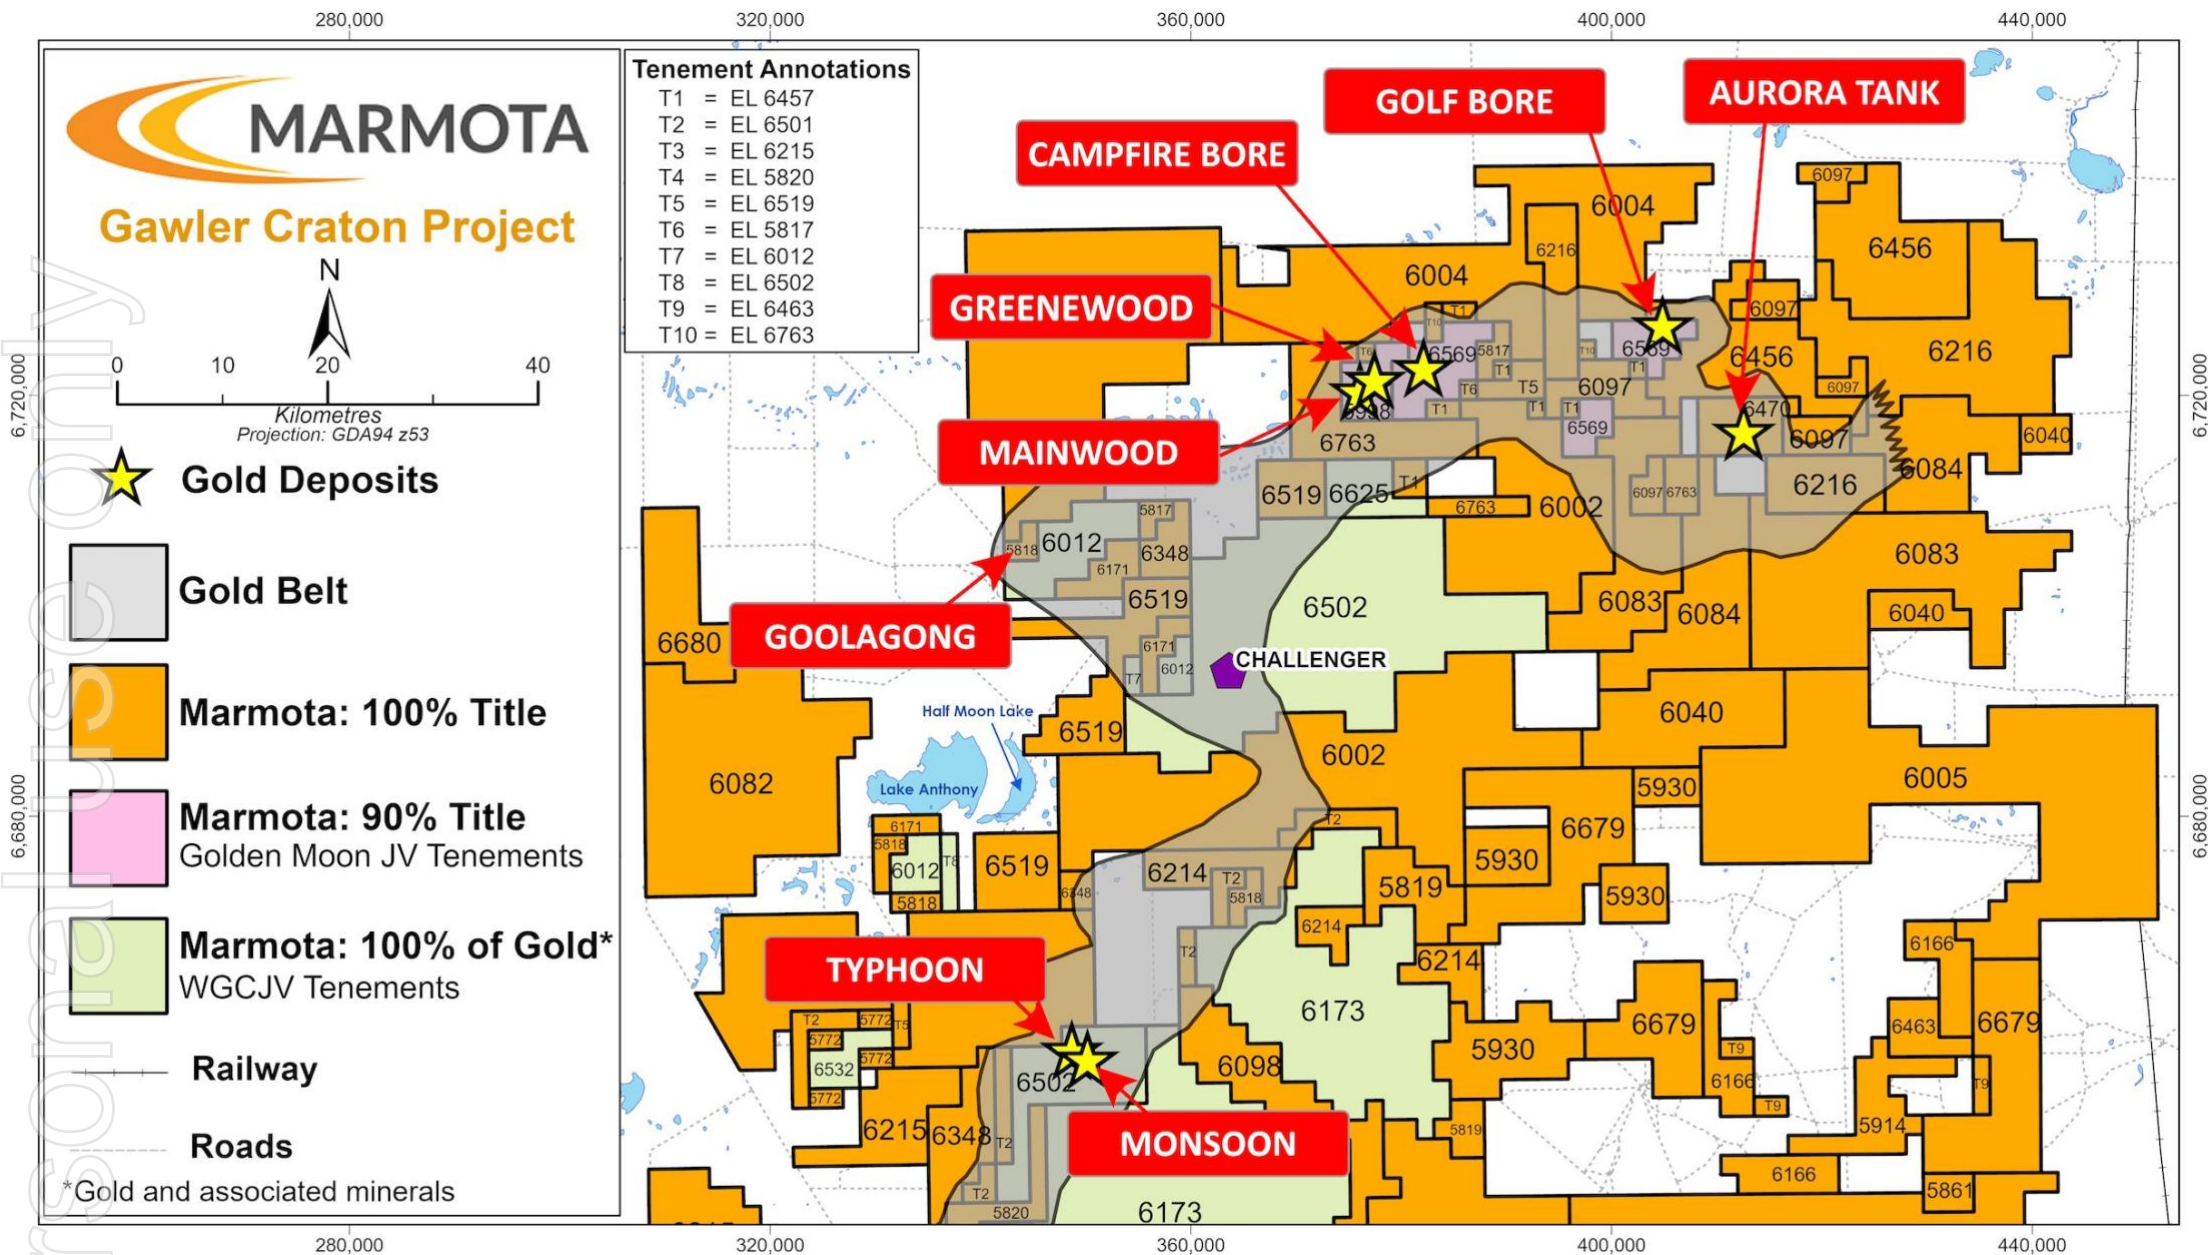

Figure 4: Location of Greenwood, the Gawler Gold Belt and Marmota's gold deposits
- The Challenger Mine (which produced over a million ounces of gold: see Fig. 4)
- Monsoon and Typhoon (see Fig. 4)